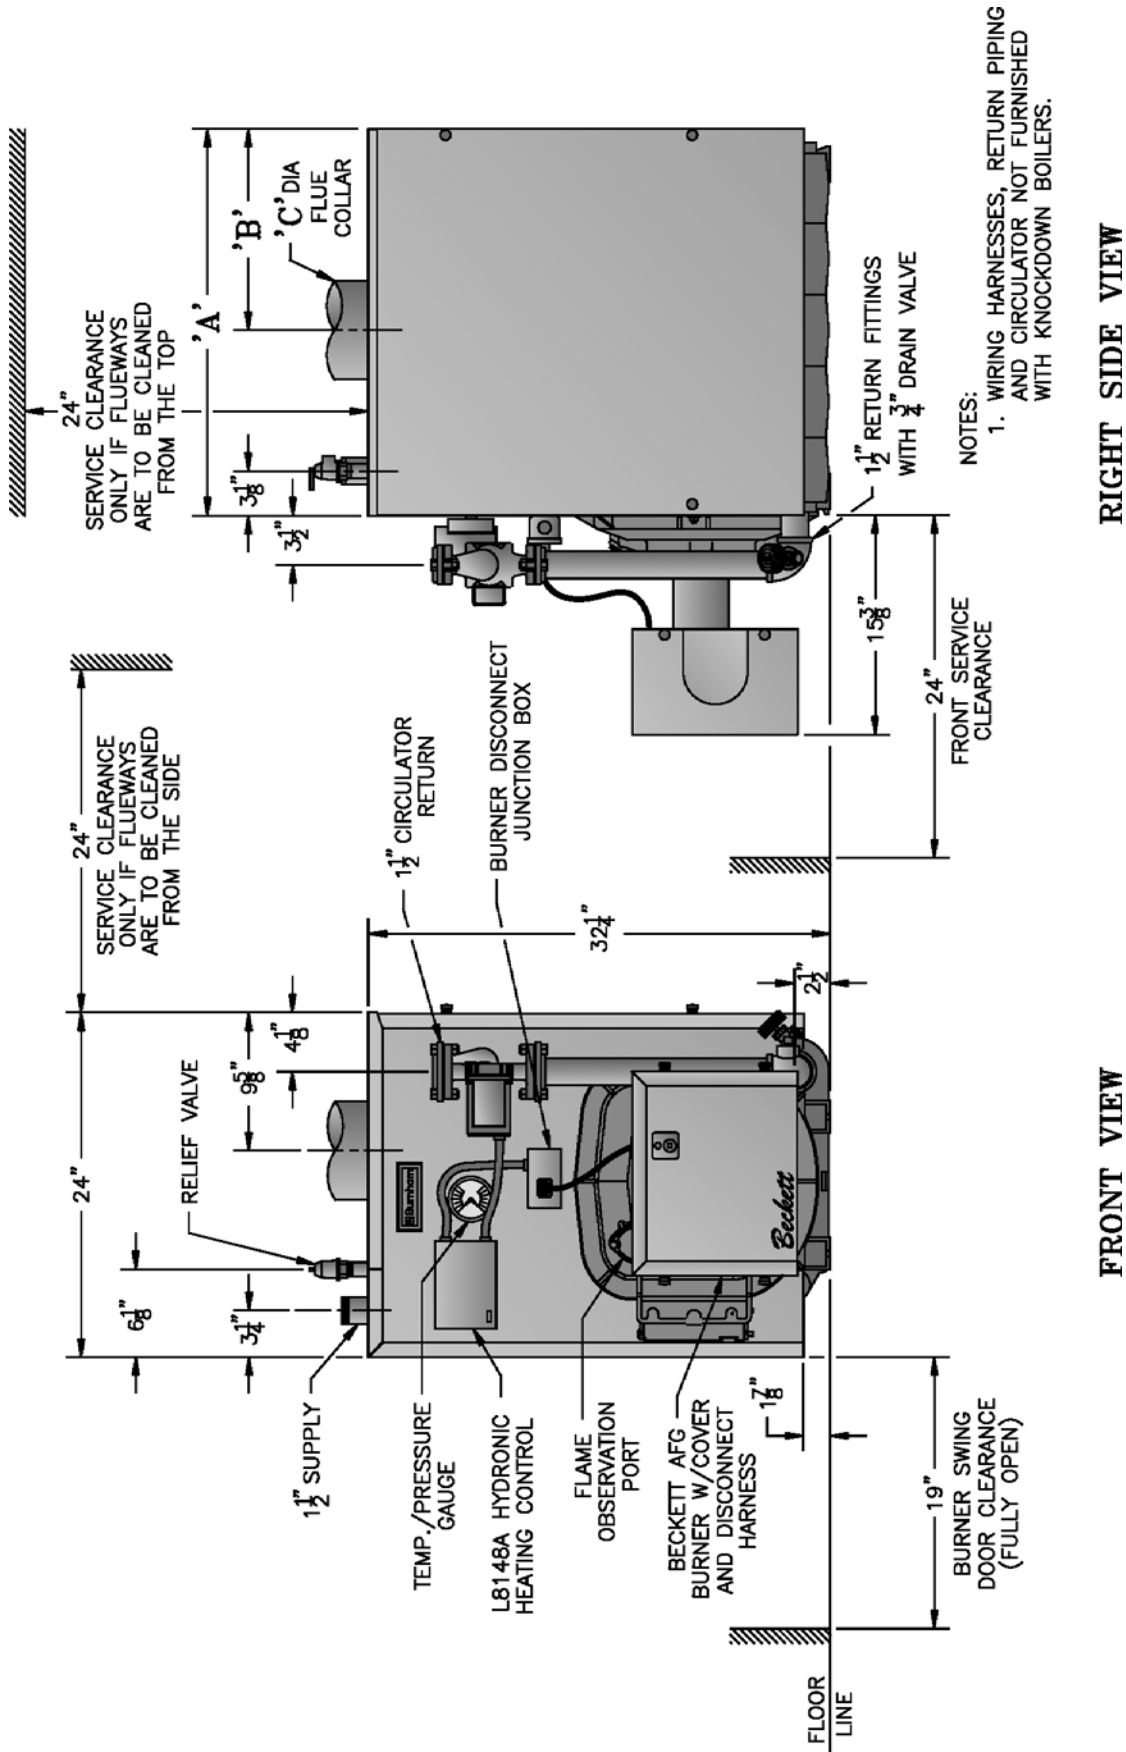

Figure 1A: V82 thru V89 Water Boiler without Tankless Heater
TABLE 1A: DIMENSIONAL DATA (SEE FIGURES 1A THRU 1D)
2. Any claims for damage or shortage in shipment must be filed immediately against the carrier by the consignee. No claims for variances from, or shortage in orders, will be allowed by the manufacturer unless presented within sixty (60) days after receipt of goods.
B. LOCATE BOILER in front of final position before removing crate. See Figures 1A thru 1D.